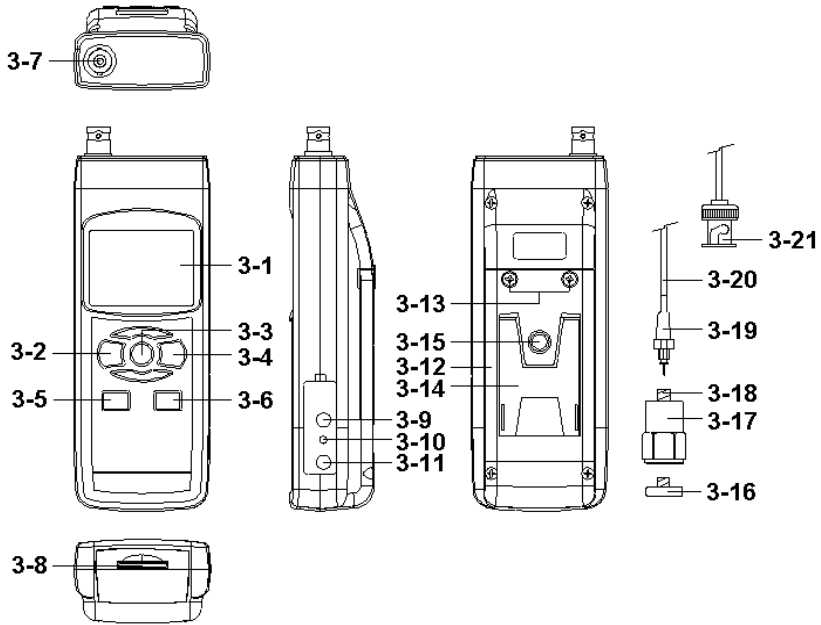

Fig. 1
Zero Button	Under Acceleration (RMS) measurement, sensor motionless , press Logger Button (3-6, Fig. 1) > 5 seconds.
Max. Hold Reset Button	Under Max. hold measurement, press Logger Button (3-6, Fig. 1) > 5 seconds.
(3-2, Fig. 1) momentarily.
- * *Pressing the " Power Button " (3-2, Fig. 1)
- 2) Plug in the " Cable BNC Plug " (3-21, Fig. 1)
to the " BNC Input Socket " (3-7, Fig. 1).
- 3) Plug in the " Mini plug of cable " (3-19, Fig. 1)
to the " Input socket of vibration sensor " (3-18, Fig. 1).
ferrous material, connect " Vibration sensor " (3-17, Fig. 1) with the " Magnetic base " (3-16, Fig. 1). Put the whole unit (Vibration sensor & Magnetic base) to the surface of measuring article.*
the " Sensor cable " (3-20, Fig. 1).*
Select the desired display unit by pressing the " Unit Button " (3-4, Fig. 1) continuously (not release the button), the Display will show the following units according Acceleration/Velocity in sequence.
Select the desired function (RMS, Peak, Max HOLD) by pressing the " Function Button " (3-3, Fig. 1) continuously (not release the button), until the Display will show the desiring function (RMS, Peak, Max Hold), then release the " Function Button " (3-3, Fig. 1).
Under execute the Max Hold function if press the " LOGGER Button " (3-6, Fig. 1) continuously at least 5 seconds will clear the existing Max hold value.
- 1) Vibration sensor is ready, connect the " Plug of cable " (3-21, Fig. 1) into the " " Input socket " (3-7, Fig. 1).
- 4) Press the " LOGGER Button " (3-6, Fig. 1) continuously at least 5 seconds will let the display reach zero value.
During the measurement, press the " Hold Button " (3-3, Fig. 1) once will hold the measured value & the LCD will display a " HOLD " symbol.
- 1) The data record function records the maximum and minimum readings. Press the " REC Button " (3-4, Fig. 1) once to start the Data Record function and there will be a " REC " symbol on the display.
- a) Press the " REC Button " (3-4, Fig. 1) again, the " REC MAX " symbol along with the maximum value will appear on the display.
If intend to delete the maximum value, just press the " Hold Button " (3-3, Fig. 1) once, then the display will show the " REC. " symbol only & execute the memory function continuously.
- b) Press the " REC Button " (3-4, Fig. 1) once, the " REC MIN " symbol along with the minimum value will appear on the display.
If intend to delete the minimum value, just press the " Hold Button " (3-3, Fig. 1) once, then the display will show the " REC. " symbol only & execute the memory function continuously.
After power ON, the " LCD Backlight " will light automatically. During the measurement, press the " Backlight Button " (3-2, Fig. 1) once will turn OFF the " LCD Backlight ".
Prepare a " SD memory card " (1 G to 16 G, optional), insert the SD card into the " SD card socket " (3-8, Fig. 1). The front panel of the SD card should face against the the down case.